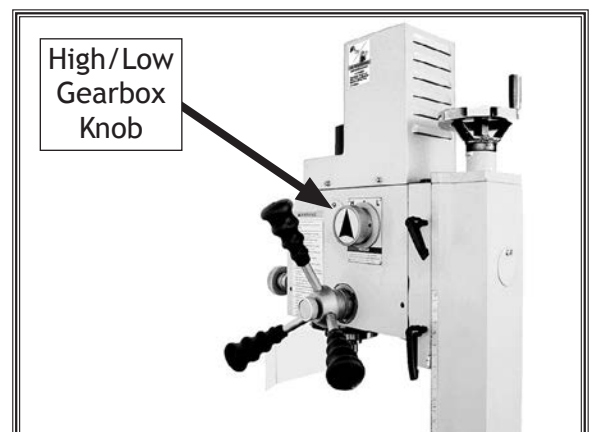

Figure 15. Rotate gearbox knob right for low setting.
4. Rotate high/low gearbox knob to low "L" gear setting (see **Figure 15**).